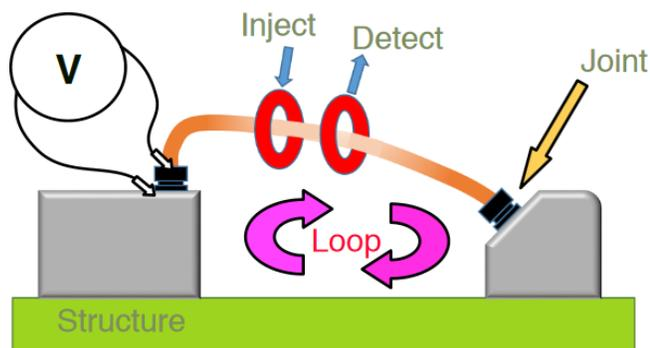

Figure 3. Bond testing structure [4]
- Loop test (Fig. 3): In this test, several metallic elements and equipment are connected together into a loop of parallel resistance paths. The loop test is used by using current clamp to inject current into the loop. The flowing current is known and combined with known voltage feedback from internal power source. The bonding meter automatically carries out a phase corrections to calculate loop resistance. The loop is typically made of cable shields and bonding straps.